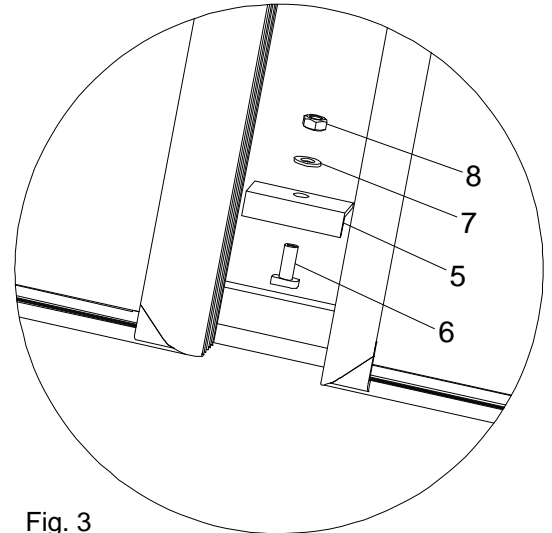

Fig. 3
3. For installations with more than one collector a spacer 60 mm of the extension set has to be installed between the collectors (fig. 3).